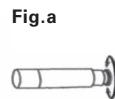

Fig.a1
- For 6x30 finderscope: loosen the locking ring by unscrewing it back towards the bracket. The front lens holder can now be turned in and out to focus. When focus is reached, lock it in position with the locking ring (Fig.a1).